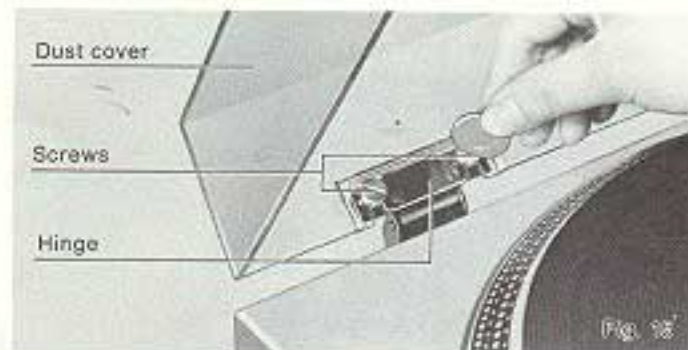

Fig. 15
⑪ Installation of the dust cover (See Fig. 15)